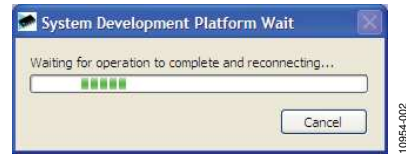

Figure 2. Connection Message
3. Click **Start > All Programs > Analog Devices > AD56x(R)**. Each of the **AD5686R**, **AD5686**, **AD5684R**, and **AD5684** has its own version of software. Click the appropriate one to run the software. As the software connects to the evaluation board, the message in Figure 2 displays.